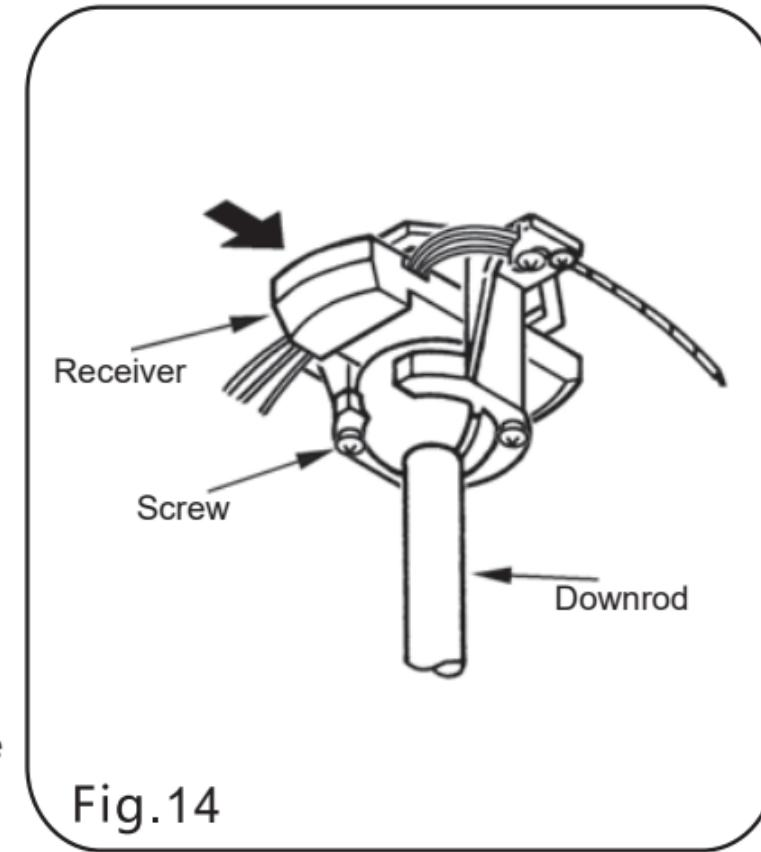

Fig.14
Step 1: Insert the receiver unit into the hanger bracket with the flat side of the receiver facing the ceiling.(Fig.14)